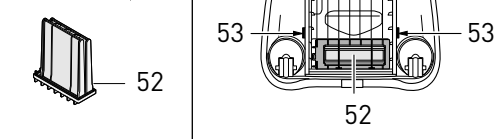

Figure 19
3. Pre-motor microfilter not properly inserted.	3. Remove the filter bag cover (26) and make sure the pre-motor microfilter housing is seated firmly in place (see pg. 13, figure 19).